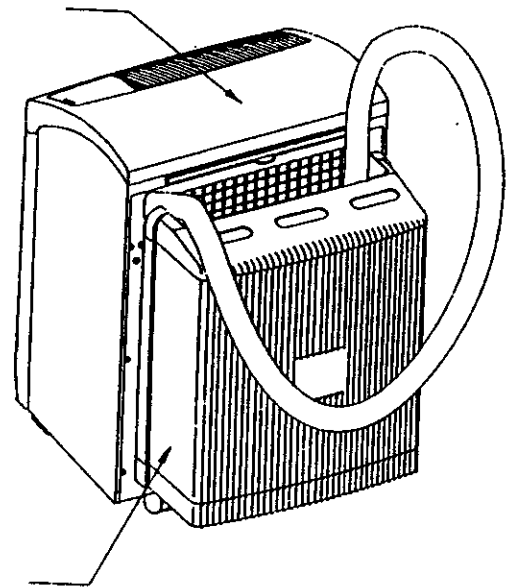

Figure 16. Units Joined for Moving and Storing
Before carrying or storing, tilt the outdoor unit to empty it from any remaining condensate water. The indoor and outdoor units should be joined together (Figure 16) when moving or storing the air conditioner. To join the units, insert pins (8) of the outdoor unit into the keyholes (16) of the indoor unit (see Figures 1 and 2).